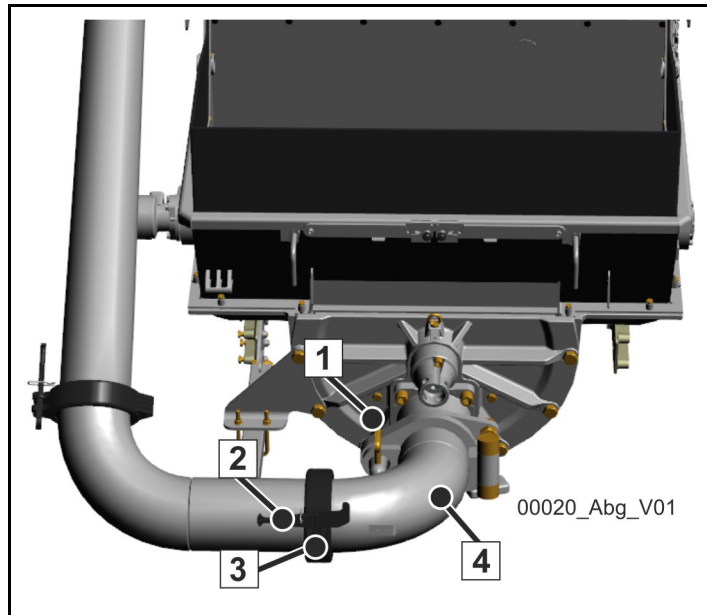

Fig. 173
- b) Remove the wedges (1+2) and the coupling (3) for truck-mounted concrete pumps.
- Swivel the outlet for the boom (4) to the side and secure with a wedge (1), (**Fig. 173**).